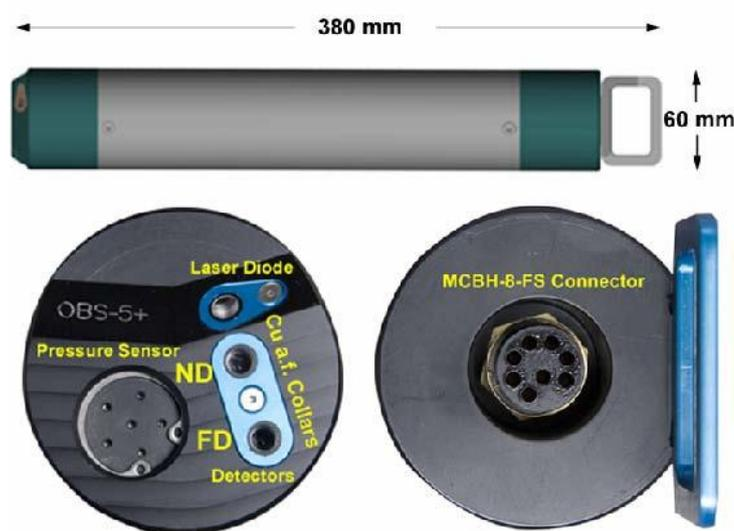
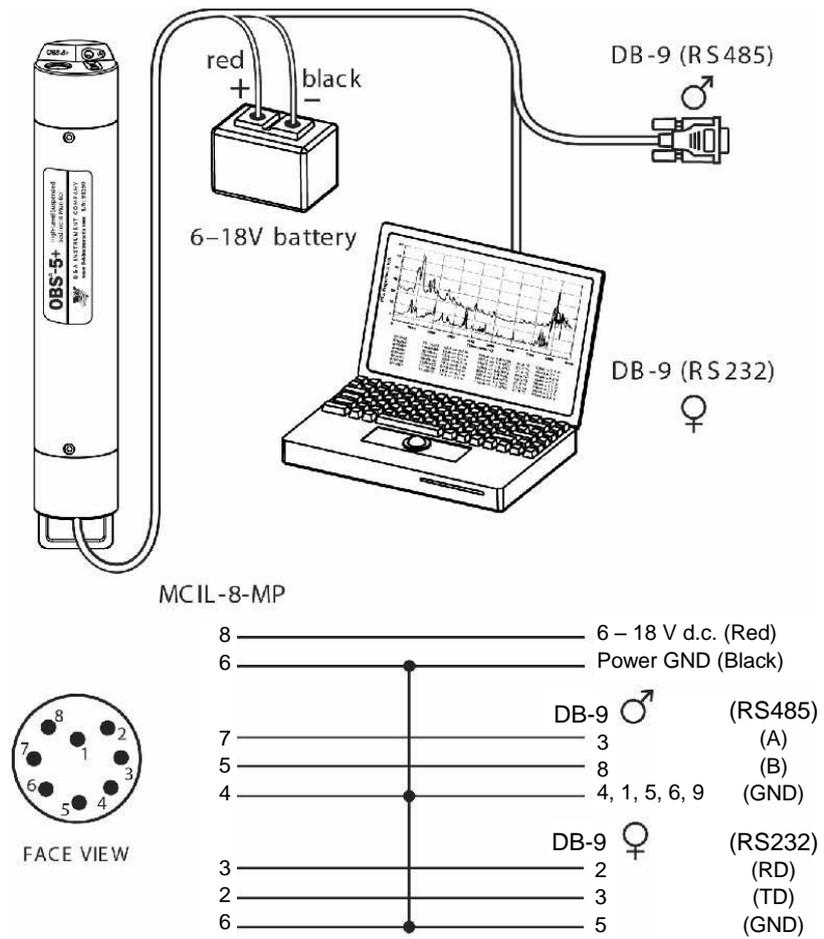

Figure 4-1. Dimensions (top), sensor end cap with copper antifoulant (Cu a.f.) collars (left) and connector end cap (right)
Figure 6-1. Electrical connections
Figure 4-1 shows the dimensions of the OBS-5+, the sensors in the sensor end cap, and underwater connection. Detailed specifications are provided in Section 5, *Specifications*. The OBS-5+ can be operated in Survey or Cyclic Modes. In Survey Mode, the unit sends data via RS-232 or RS-485 to a PC at two hertz, and in Cyclic Mode, it logs as many as 200,000 scans of time, date, depth, and $g L^{-1}$ in flash memory (one sample per hour for 23 years). When sampling continuously, the unit will run about 125 hours on three C-size alkaline batteries in 20°C water (about two weeks of eight-hour survey days). When using the instrument for surveys, the data are captured by a PC running the *OBS-5+ software*. Pressure is measured with a silicon strain-gauge pressure sensor and the depth of the instrument is calculated from water density and barometric pressure entered by the operator.
The OBS-5+ will usually be towed with a cable harness for surveys. The serial cable can tow the OBS-5+ without a depressor weight or vane as long as the connector is strain relieved. Strain relief can be provided by attaching the cable to the stainless steel housing (Figure 4-1) with a cable grip and a length of 3 mm (1/8 in) wire rope. Install a cable clamp with a 0.5 m wire rope to the serial cable, and clamp the wire rope to the pressure housing with two stainless steel hose clamps, providing a small loop of slack cable to absorb towing forces. The unit can be powered with an external battery, as shown on Figure 6-1, and the serial output can be transmitted by either RS-232 or RS-485 protocols. The latter protocol is recommended for cable lengths greater than 25 m. An RS-485/232 serial converter is provided with each unit. An RS-232 to USB converter is an available option.
- 4) Connect the OBS-5+ to a PC with the test cable (Figure 6-1).